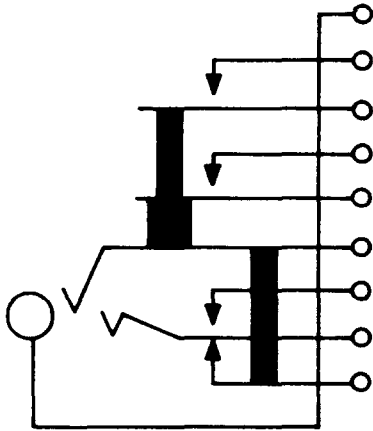

Fig. 12—372A or C Jack
**2.12 372A and C:** These are single-mounted jacks (Fig. 12). These jacks are used with the 757A PBX common control switching and with the 310 or 184-type plugs.